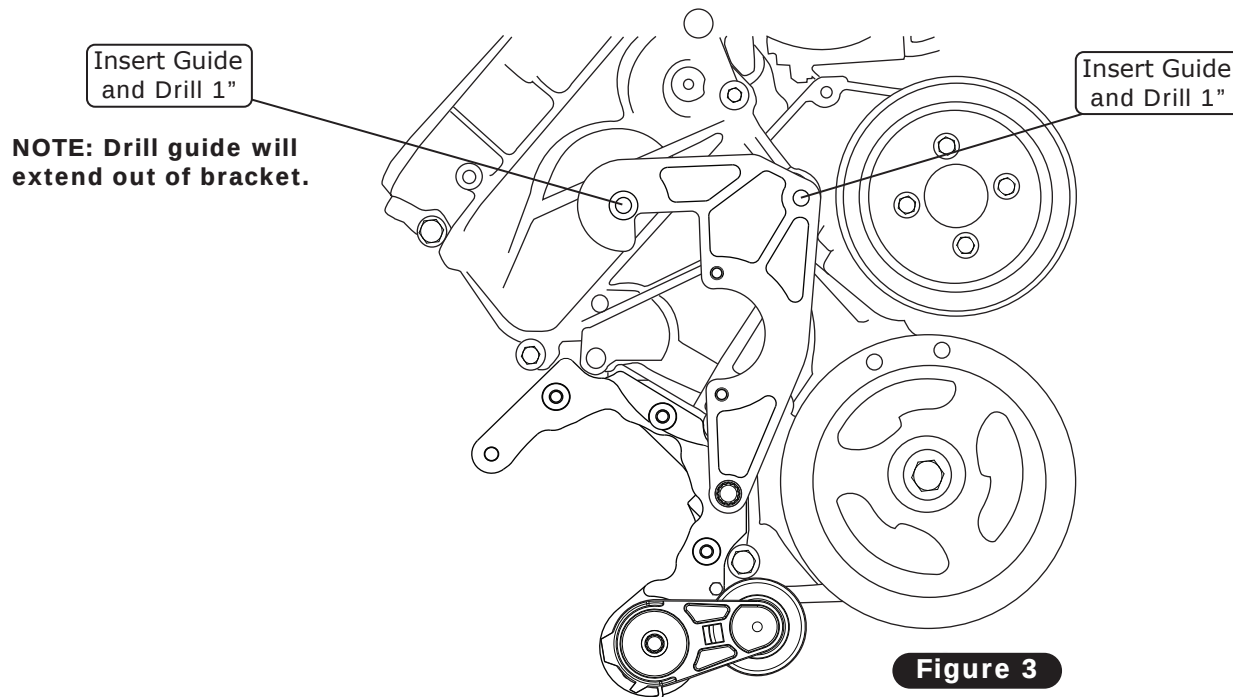

Figure 3
4. With the upper bracket secured to the lower bracket assembly, use the included guide and upper bracket to drill one inch into the mounting bosses (See Figure 3, below).